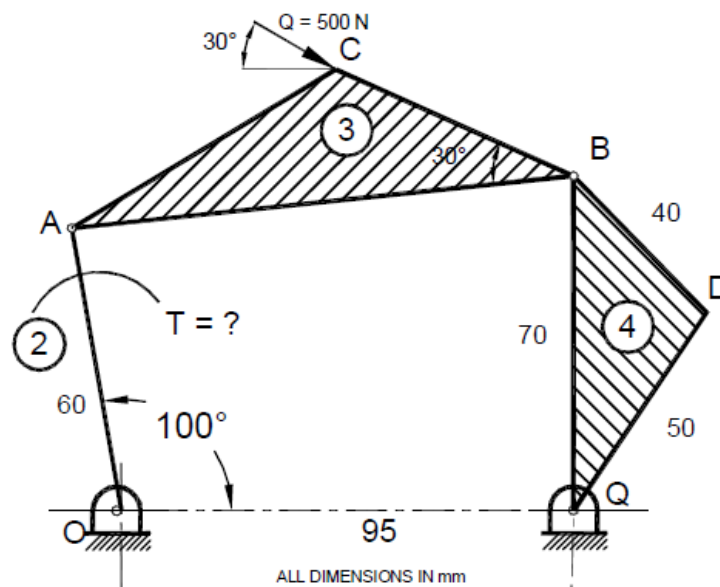

Figure. 1A
- 1A.** For the four bar mechanism as shown in figure 1A, determine the torque “T” to overcome a force $Q = 500 \text{ N}$ acting at point C on the connecting link ABC. BQ is vertical and angle BAC is 25° . Crank OA rotates in clockwise direction. All dimensions are in mm. (Draw the configuration, free body and analysis diagrams) **05**